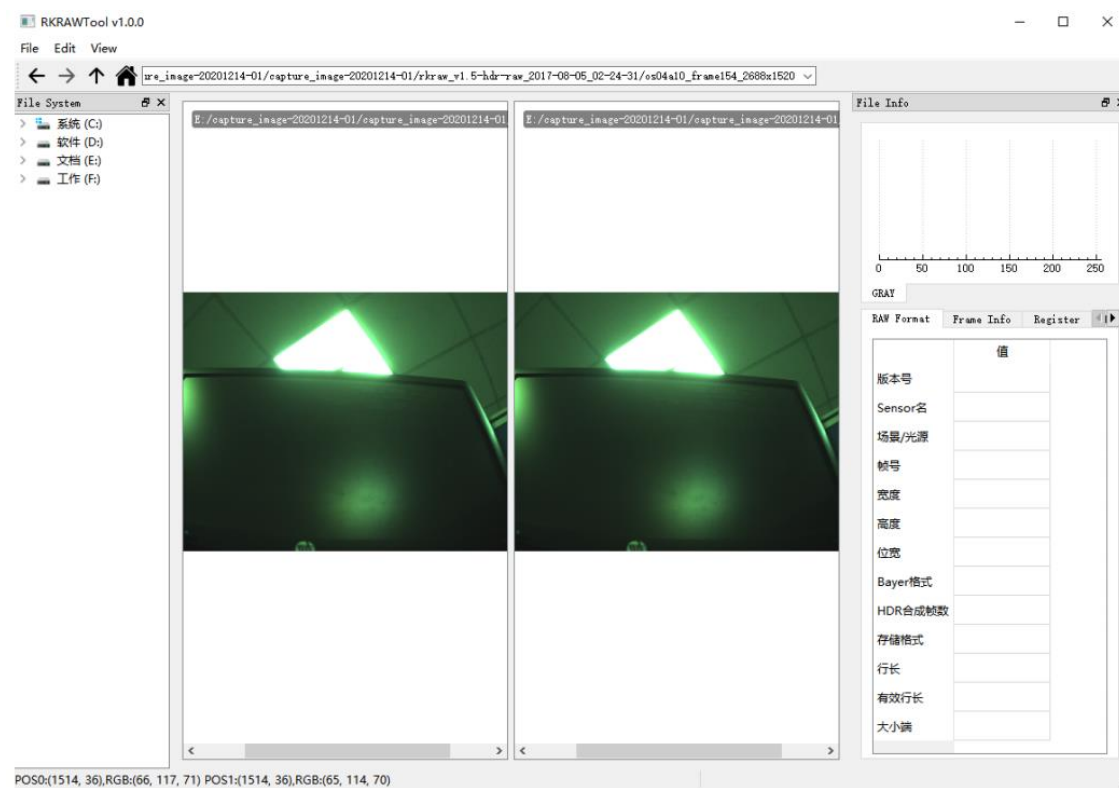

Figure 2-5-3
5. Compare: Hold down the Ctrl and select more than 2 images at the same time and click compare button as shown in Figure 2-5-3.